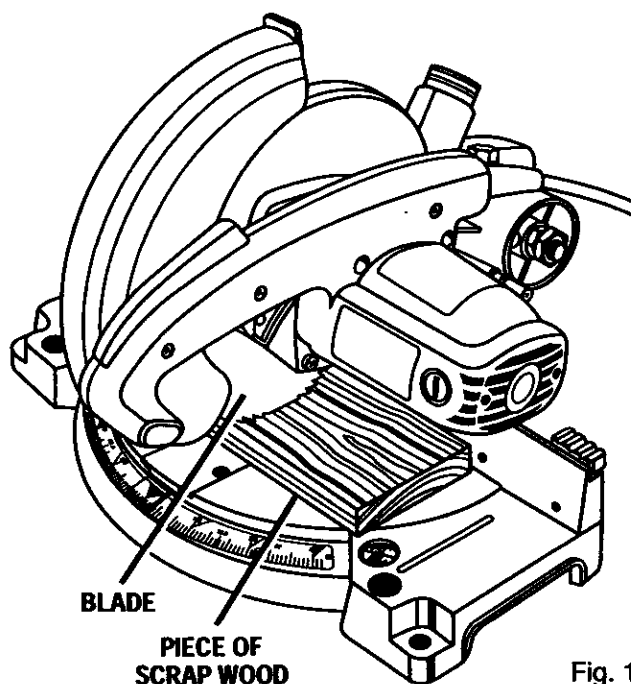

Fig. 12
- Lower the blade down onto a piece of scrap wood positioned against the fence. *See Figure 12.*
- Lower the blade down onto a piece of scrap wood positioned against the fence. See Figure 12.